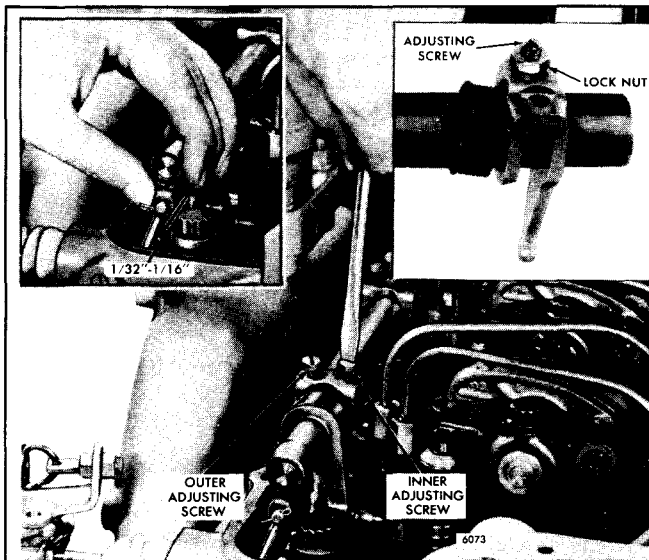

Fig. 3 – Adjusting Injector Rack Control Lever Adjusting Screws
5. Move the rear injector control rack into the *full-fuel* position and note the clearance between the fuel rod and the cylinder head bolt. The clearance should be $1/32$ " or more. If necessary, readjust the injector rack adjusting screws until a clearance of at least $1/32$ " to $1/16$ " exists. Tighten the adjustment screws or screw and locknut (Fig. 3).